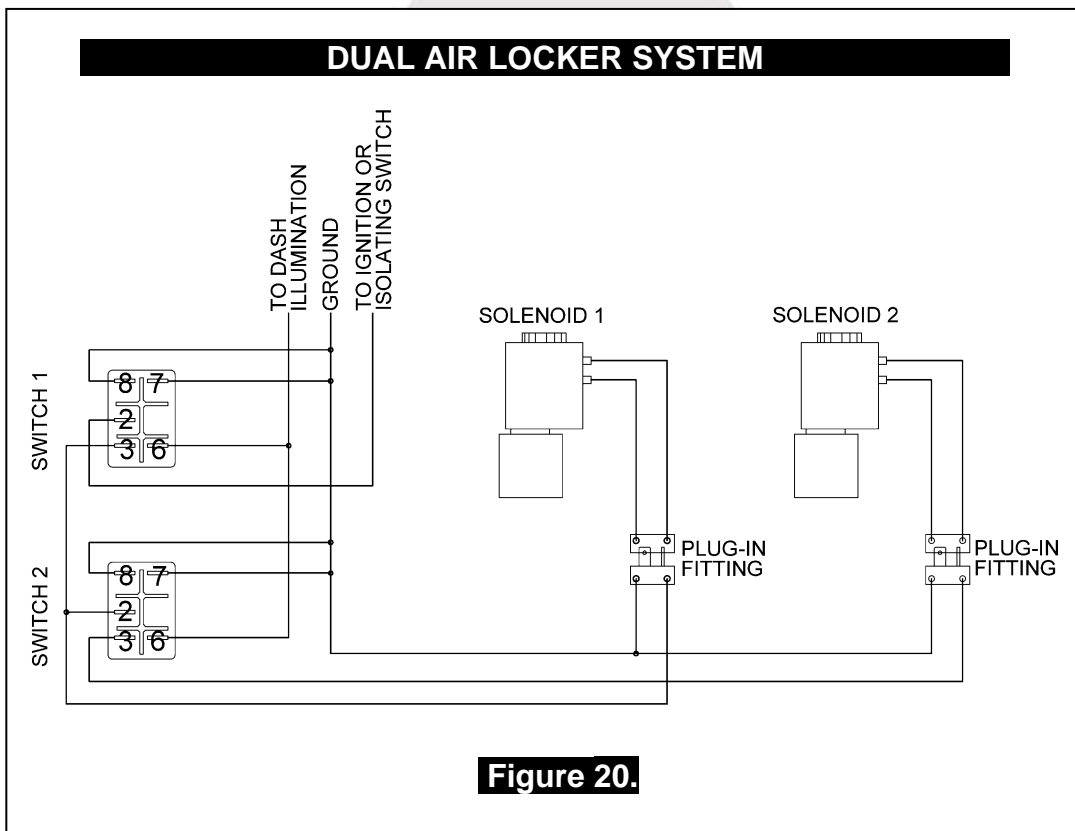

Figure 20.
- If two *Air Lockers* are to be installed in the system, ARB recommends that the switches and solenoids be wired according to Figure 20. For safety reasons, this configuration allows SOLENOID 2 to be actuated only if SOLENOID 1 is already on.